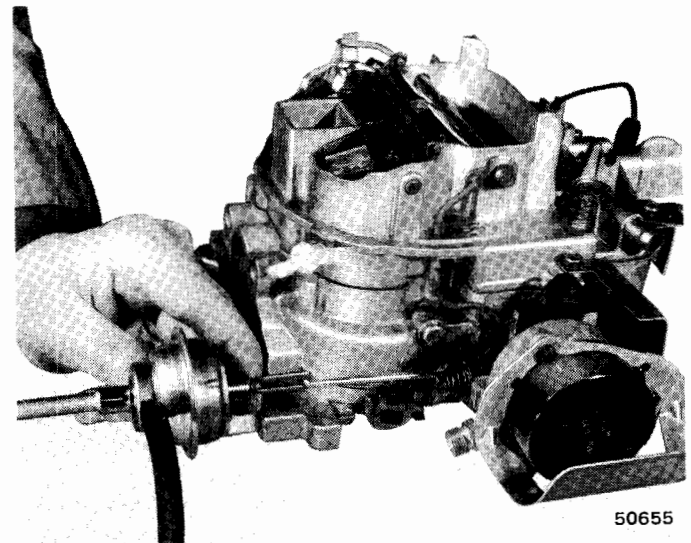

Fig. 4-79 Adjusting Initial Choke Valve Clearance
(6) Adjust clearance by turning screw located at rear of diaphragm housing (fig. 4-79).
(7) Adjust fast idle cam linkage.
(8) Loosen choke cover screw and rotate cover to relieve tension on choke bimetallic coil. Set choke cover to specifications and tighten choke cover screws.